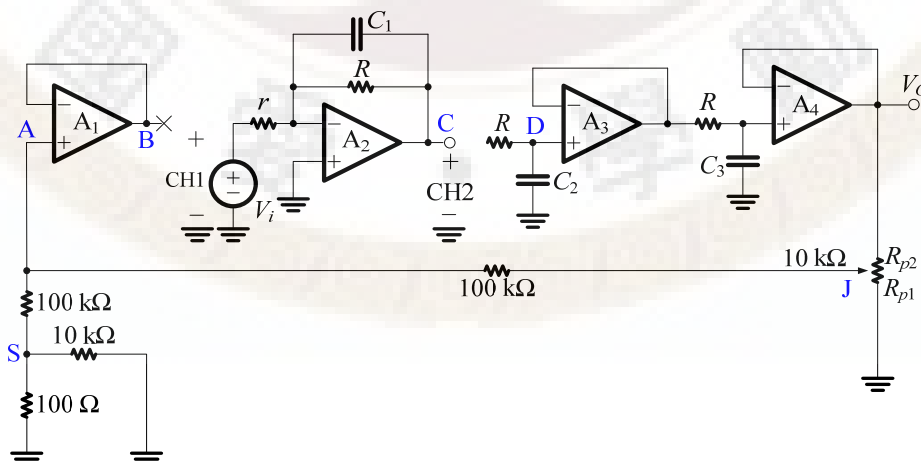

Fig. 4 Small signal analysis of  $A_2$
- (1) Use  $R = 10\text{ k}\Omega$ ,  $r = 100\text{ }\Omega$ ,  $C_1 = 0.1\text{ }\mu\text{F}$  (104) for  $A_2$  in Fig. 4.
- (2) Supply voltage source  $V_{CC} = +15\text{V}$ , and  $-V_{CC} = -15\text{V}$  to the circuit.
- (3) Apply the input small signal  $V_i$  to the breadboard by using function generator to generate  $v_i = v_{ac} \times \sin(2\pi ft)$ ,  $2v_{ac} = 100\text{mV}_{(p-p)}$ ,  $f = 100\text{ Hz}$ .